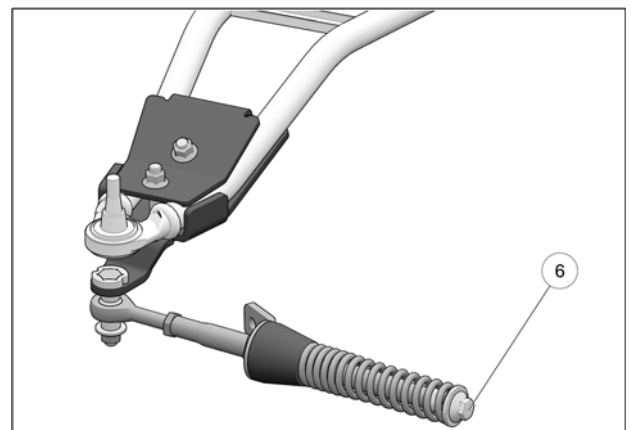

Fig. 21
10. Make sure spring mounting bolt (6) is torqued to specification: 75 N•m [55 lb•ft]. Fig. 21